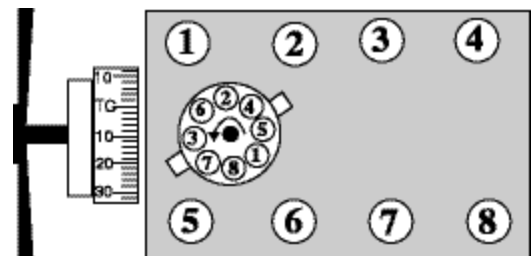

Figure 3 - Ford 289-302 c.i.d. V8
6. See Figure 3 for Firing Order and Cylinder Numbering.